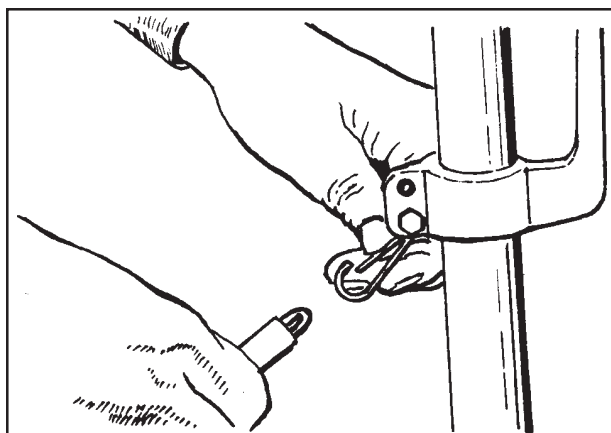

Figure 4
4. Fasten the dust bag to the clip on the handle (see figure 4.)